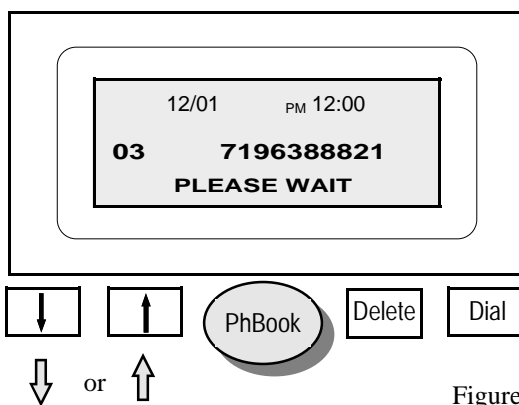

Figure 2
2. To place into phonebook memory, press the **“PhBook”** key once and the LCD will display the word **“PLEASE WAIT”**. The number is now placed into memory (figure 2).